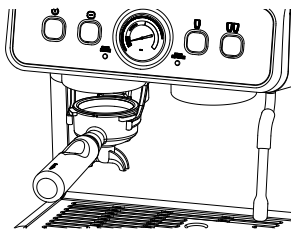

Fig. 6
3. As shown in Fig. 6, put the portafilter (12) with a single-cup filter (13) or double-cup filter (14) into the grind outlet (5).